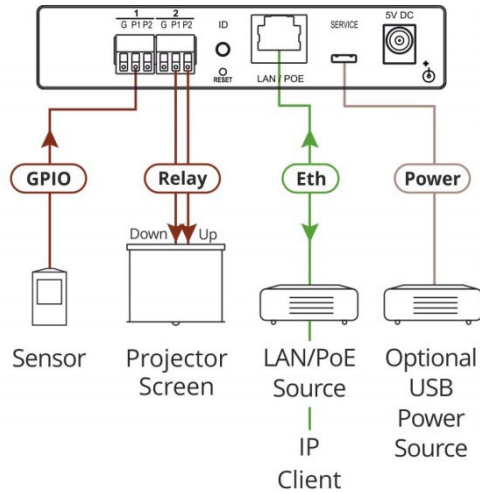

Figure 5: Connecting the FC-7P Ethernet Gateway – GPIO/Relay
To connect the **FC-7P** as illustrated in the example in Figure 5:
4. If the **FC-7P** does not receive power from a PoE provider or a USB power connection, connect the device to the power supply and connect the power adapter to the mains electricity (not shown in Figure 5).